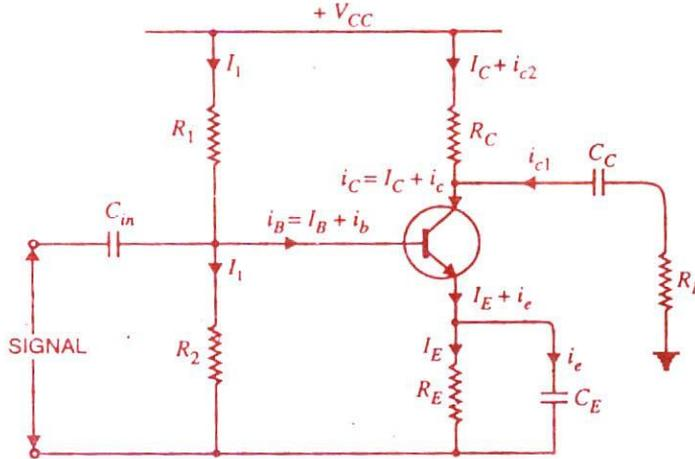

Fig. 12.3
It is important to note that a transistor can accomplish faithful amplification only if proper associated circuitry is used with it. Fig. 12.3 shows a practical single stage transistor amplifier. The various circuit elements and their functions are described on the next page :
**Various circuit currents.** It is useful to mention the various currents in the complete amplifier circuit. These are shown in the circuit of Fig. 12.3.